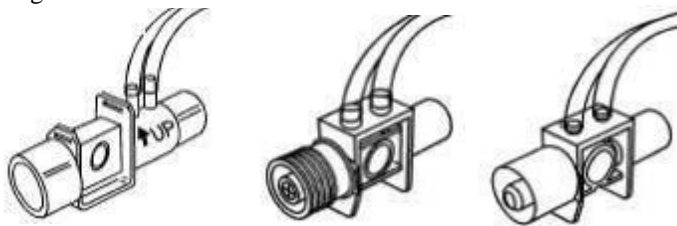

Figure 13-7
- (5) Selecting a appropriate Combined CO2/Flow Sensor for Pediatric/Adult, Pediatric or Neonatal, shown as Figure 13-7.